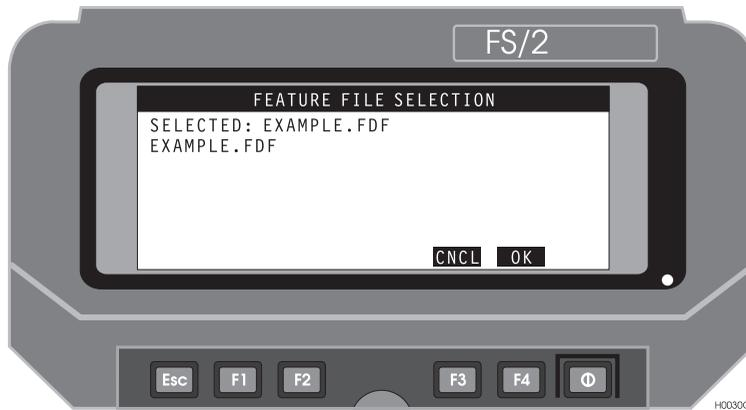

Figure 3.8: Feature File Selection Screen
3. Press **F1 (FDF)** to call the Feature File Selection screen, Figure 3.8; FDF is the DOS filename extension for feature files.